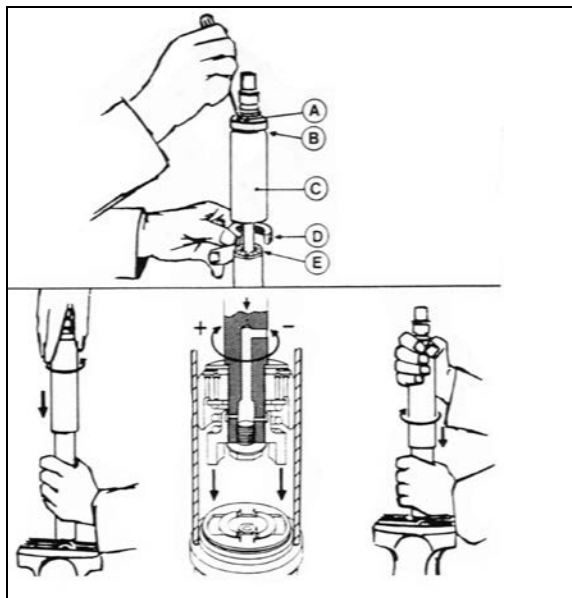

FIGURE 23: DAMPER
To adjust opening and closing cycle speed on damper (Figure 23):
the recesses of the foot valve assembly (Figure 23).
In figure 23, if there is an indentation (B) in the dust cap (C) and the cover shows two holes (A), the damper is fitted with a bump rubber (D). If so, fully extend the damper and insert a round bar or screwdriver through the holes. Push the bump rubber down and remove. Remove the split plastic collar (E) (if fitted) from the piston rod.
inside the dust cap and by fully closing the damper, the rubber will seat again at top of the dust cap. Refit the split plastic collar E (Figure 23).